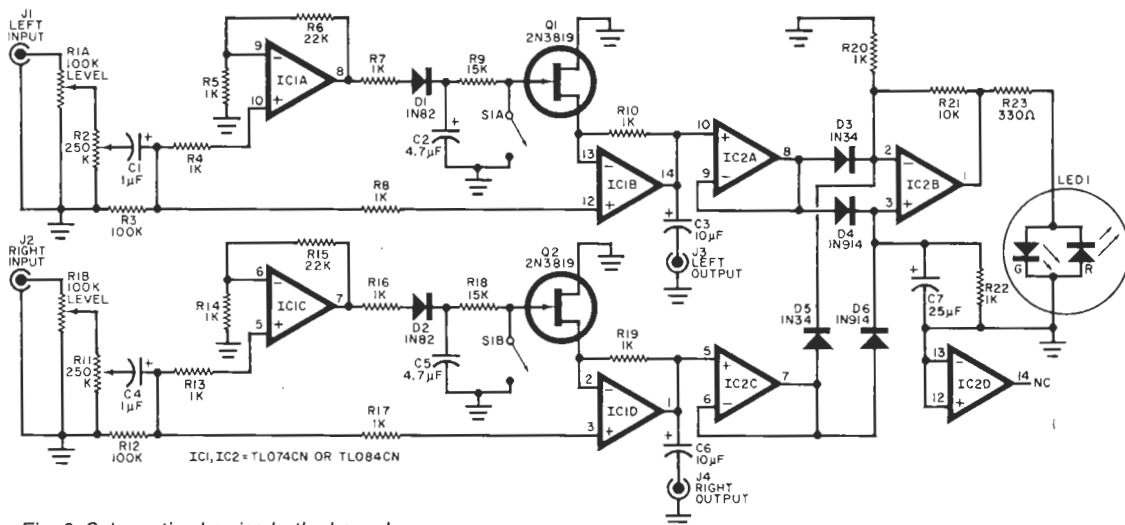

Fig. 2. Schematic showing both channels of the Peak Unlimiter circuit and LED indicator.
**About the Circuit.** The Peak Unlimiter, shown schematically in Fig. 2, is designed around two quad BiFET operational amplifiers. The first, *IC1*, performs the actual signal processing, and the other, *IC2*, forms the heart of a gain-change indicator that is common to both audio channels. The signal-processing stages of both channels are identical, so further reference will be made only to the left channel.